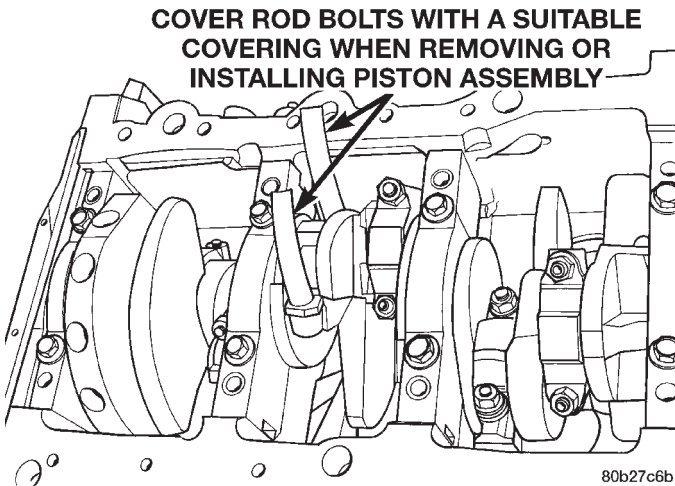
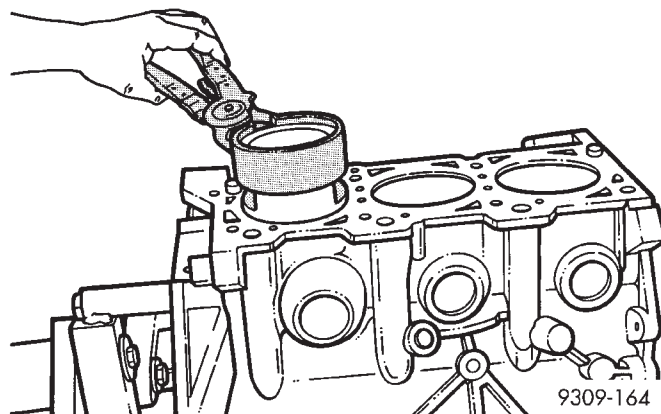

Fig. 93 Connecting Rod Guides and Crankshaft Protectors
Fig. 99 Piston—Installation
- (4) Remove connecting rod cap. Install protectors on connecting rod bolts (Fig. 93). Push each piston and rod assembly out of cylinder bore.
(3) Before installing the ring compressor, make sure the oil ring expander ends are butted and the rail gaps located as shown in (Fig. 99).
(4) Immerse the piston head and rings in clean engine oil, slide the ring compressor over the piston and tighten with the special wrench. **Ensure position of rings does not change during this operation.**
(5) Install connecting rod bolt protectors on rod bolts (Fig. 93).
(6) Rotate crankshaft so that the connecting rod journal is on the center of the cylinder bore. Insert